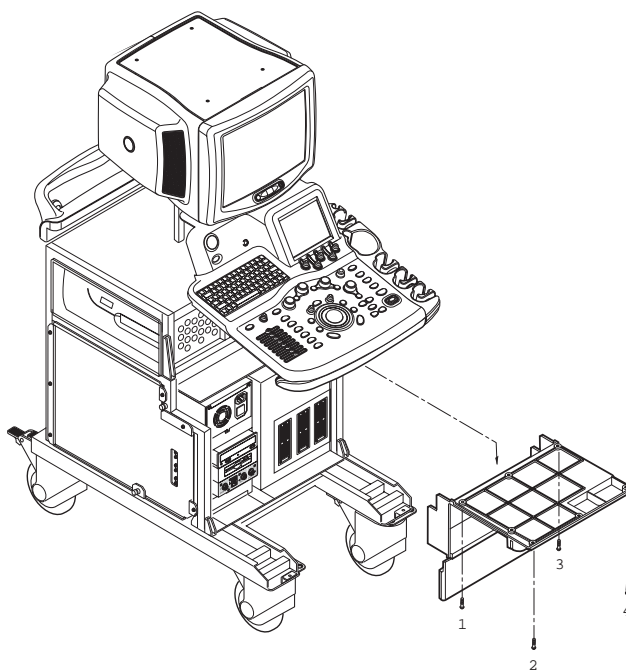

Figure 8-63 Removing the OP Bottom Cover
- 7.) Unscrew four (4) screws (1-4). Refer to Figure 8-63 on page 8-47 .